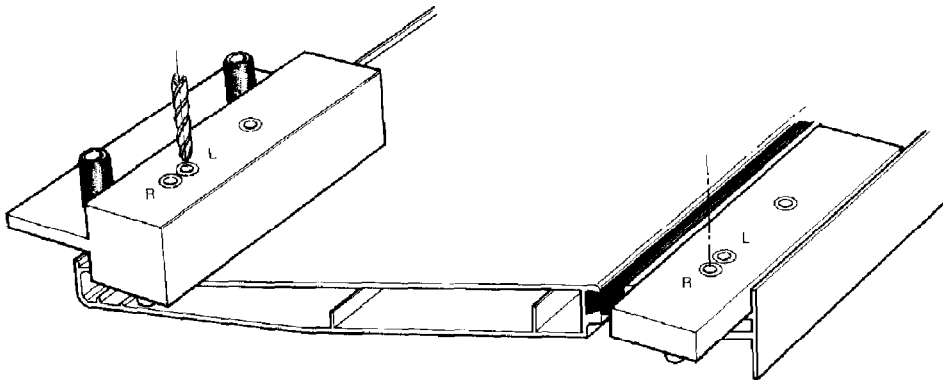

Figure 2.24 - PREPARING CILL BRACE HOLES
9.5.4 Preparing cill brace holes (Fig 2.24)